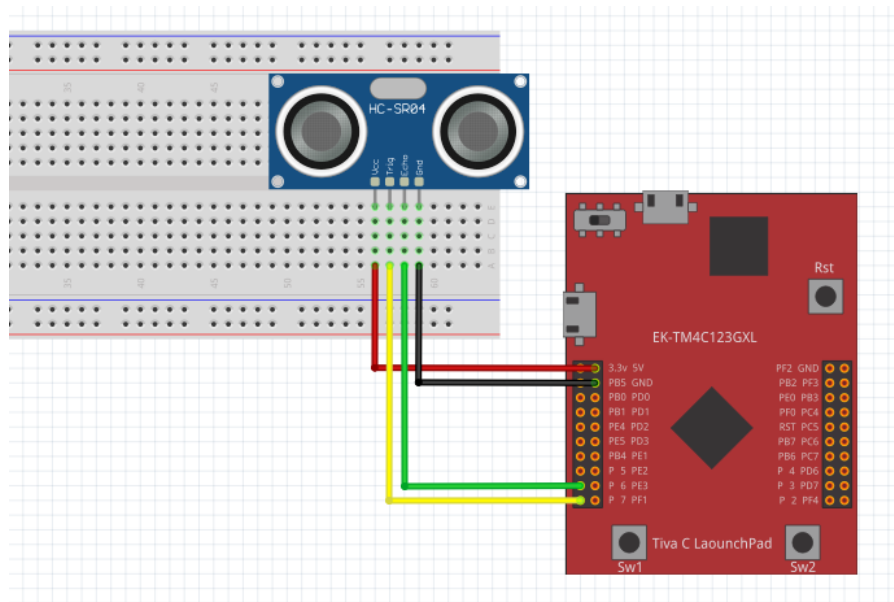

Figure 7: Pin Connection of TivaC with Ultrasonic Sensor
- 1 Make the pin connections between TivaC and HC-SR04 using Table. 1 and Fig 7.